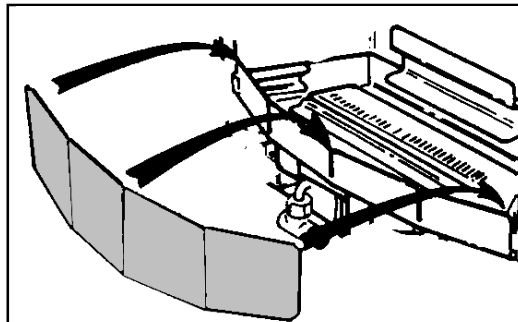

Figure 10 Burner Tray Trim
2. Fit the burner tray trim over the front rim of the burner tray. Push the trim fully down. See figure 10.